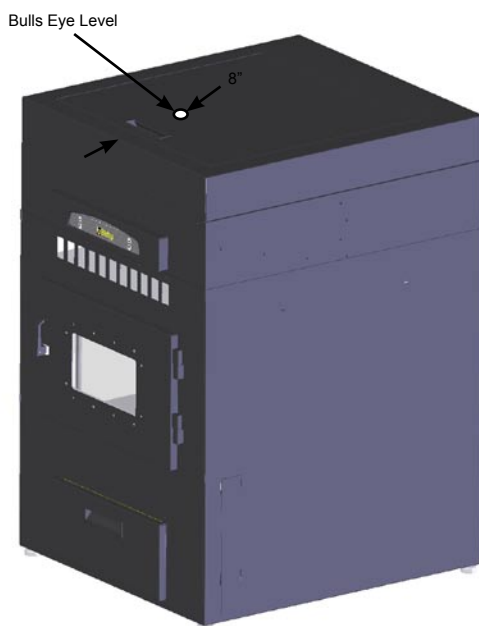

FIGURE 3
1. Place the level centered side-to-side and about 8 in. (20cm) back from the front of the UBB on the top surface. The bubble should end up centered inside the middle circle on the level. If the bubble is not in that position, the bubble will be towards the high side of the UBB. See Figure 3.